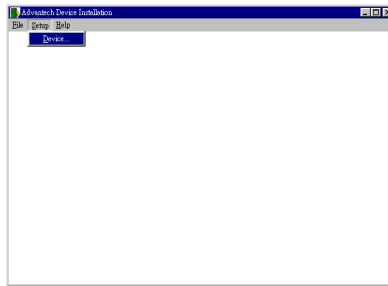
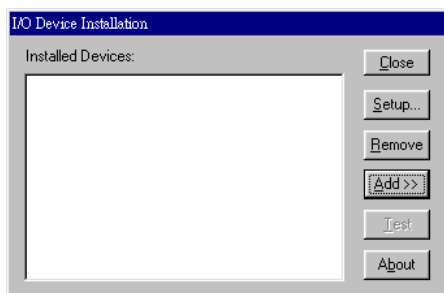

Fig. 2-5 The Advantech Device Installation utility program
Fig. 2-6 The I/O Device Installation dialog box
**Step 2:** On the *Device Installation* program window, select the *Setup* menu item on the menu bar, and click the *Device* command (Fig. 2-5) to bring up the *I/O Device Installation* dialog box (Fig. 2-6). You can then view the device(s) already installed on your system (if any) on the *Installed Devices* list box. Since you haven't installed any device yet, you might see a blank list such as below (Fig. 2-6).